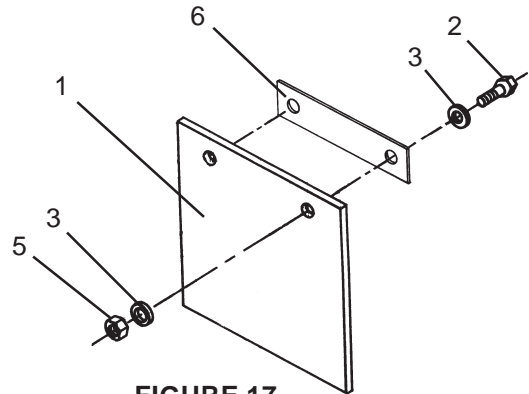

FIGURE 17
Attach Wing Deflector to deck using 7/16" x 1-1/2" Bolts (2) and Flatwashers (3) on face side of Flap Strap as shown in **Figure 17**; and securing it on the back side of the deck with Flatwashers (3) and Locknuts (5).